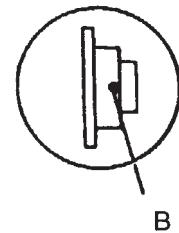

Figure 25. Position B
1. Lubricate bearing zerk with one shot of grease at each B position (13 positions). See Figure 25.